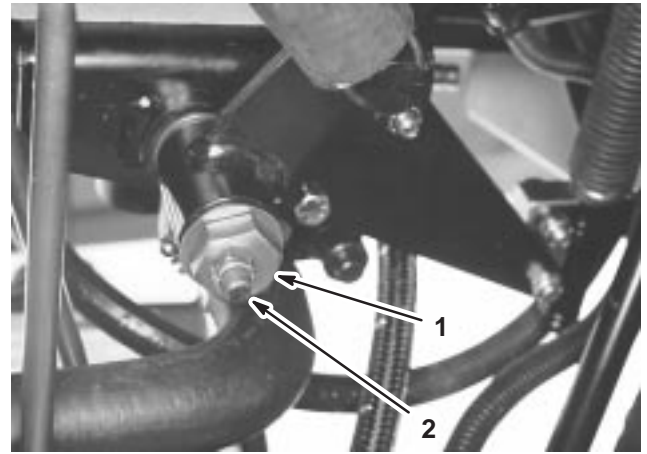

Figure 53
3. Under left side of machine, loosen locknut on traction adjustment cam (Fig. 53).